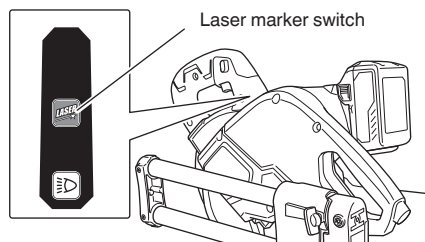

Fig. 34
- (1) Turn on the laser marker, fix the material (height: approx. 20 mm, width: approx. 150 mm) with the vise, and make a groove with a depth of about 5 mm. (Fig. 34, 35, 36)